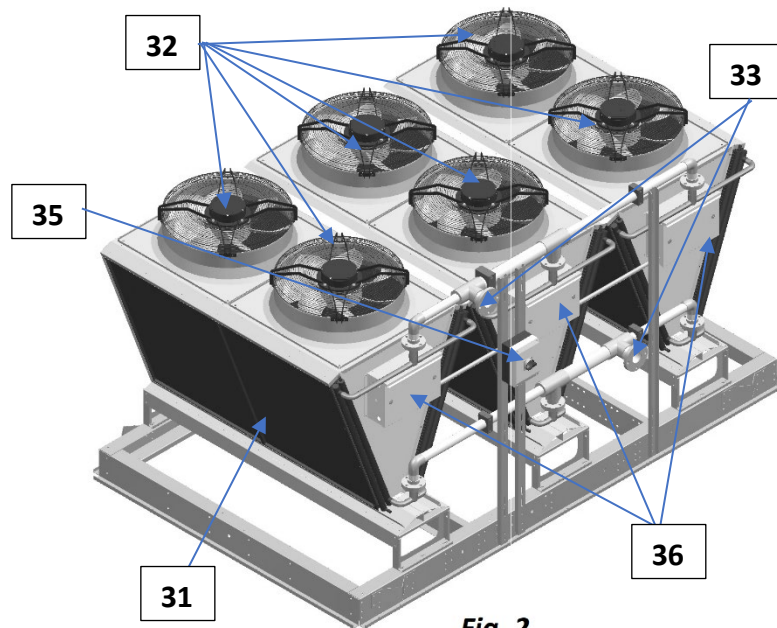

Fig. 2
The general layout of AC options is shown on Pic.D.5 below with the outdoor fluid and NG-V-32 (Fig.2) has been displayed as an example. While layout and main components are similar for all applicable AC options, there are some deviations (number of fans, composition, etc.). Refer to **AC Options Basic View (Basic Information** chapter) for additional information.
- Cooling (AC) **coils** (31) (where heat from glycol mixture is rejected to the ambient air) is mounted onto metal frame, upstream (before) the **fans** (32), that pulls the air through the coils to absorb the heat.
- Normally, fluid cooler would have multiple coils and fans. Cooler NG-V-32 (Fig.2), comprised of six coils, mounted on the angle to each other, and six fans, with two fans and two coils presenting a single block. Depending on the capacity, cooler could be comprised of up to six such single blocks, stacked side by side on the same frame and manifolded together.
- Cooler **piping connections** (33) are identified respectively (IN – OUT);
- Electric power is brought to **disconnect** (35) which feeds it to the **electrical box** (36), that contains cooler power and control apparatuses.